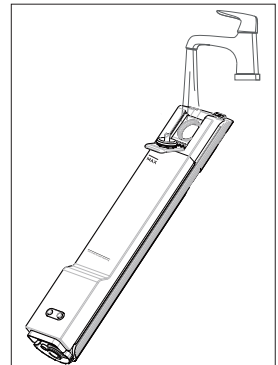

Fig. 6 – Filling the water tank
- ▶ Fill the fresh water tank with clean tap water. Do not use hot or boiling water to fill the fresh water tank. (see Fig. 6)